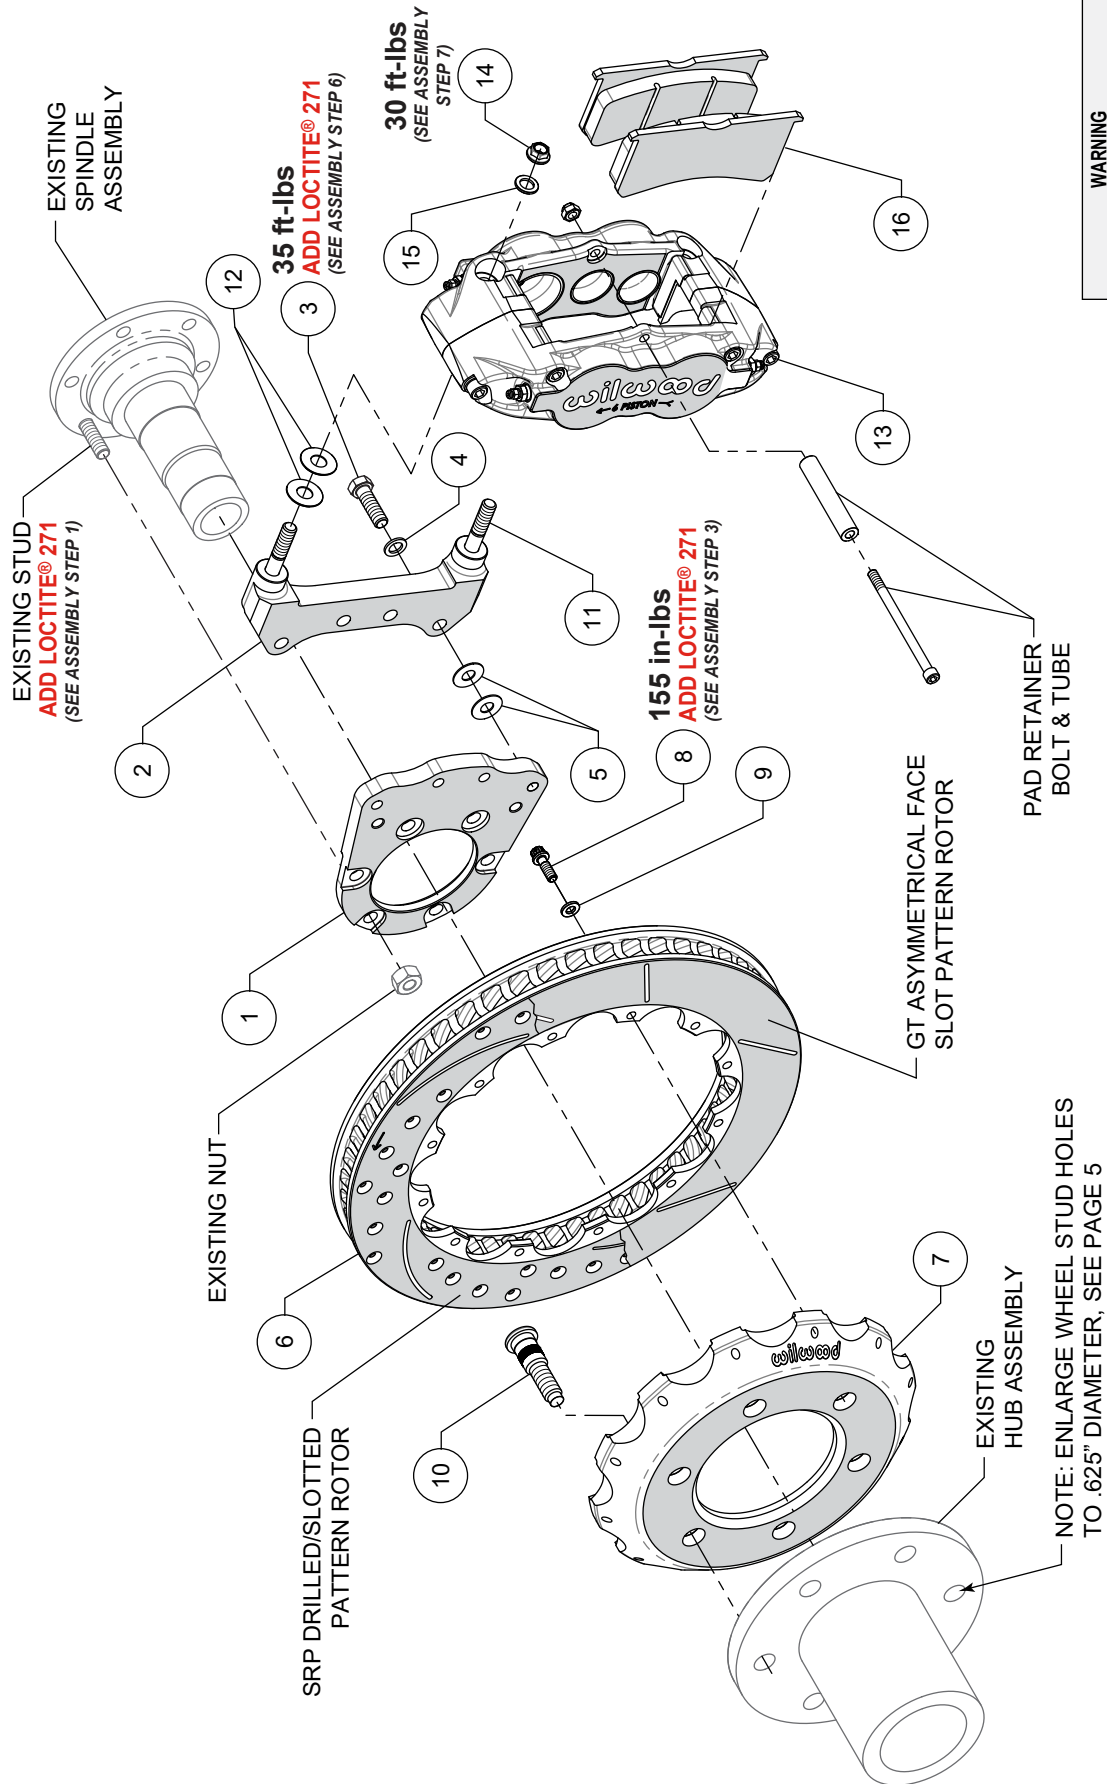
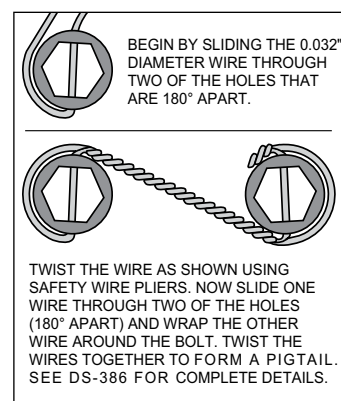

Figure 1. Typical Installation Configuration
Figure 2.
NOTE: Numbers in parenthesis refer to the parts list and Figure 1 on the preceding pages.
STEP 1 Orient and mount the flat bracket (1) to the spindle using the OEM studs and nuts as shown in Figure 1 and Photo 1. Apply red *Loctite*® 271 to the threads of studs and torque nuts to OEM specifications. **NOTE:** The bracket must fit squarely against the mounting surface. Inspect for interference from casting irregularities, machining ridges, burrs, etc.
STEP 2 The caliper mount bracket (2) should initially be installed with clean, dry threads on the mounting bolts. Orient the bracket as shown in Figure 1 and Photo 2, and install using bolts (3) and washers (4). Initially place two .035 thick shims (5) on each bolt between the flat bracket (1) and caliper mount bracket (2), Figure 1. Temporarily tighten the mounting bolts. Later, after the caliper alignment has been checked, the mount bolts will be secured using red *Loctite*® 271.
STEP 3 Orient the rotor (6) and the hat (7) as shown in Figure 1 and Photo 3. Attach the hat to the rotor using bolts (8) and washers (9). Apply red *Loctite*® 271 to the bolt threads and torque to value shown in Figure 1 using a criss-cross pattern. For an added measure of security, the bolts may be safety wired using standard 0.032 inch diameter stainless steel safety wire as shown in Figure 2. Please refer to Wilwood's data sheet DS-386 (available at www.wilwood.com/Pdf/DataSheets/ds386.pdf) for complete safety wire installation instructions.
STEP 4 **NOTE:** See "Modification Instructions" for information on modifying the wheel stud holes. Orient the hat/rotor (6/7) and existing hub so the wheel stud holes are aligned with each other as shown in Figure 1. Install the wheel studs (10) from the backside of the hat and press studs into the hub, as shown in Figure 1.
STEP 6 NOTE: This kit contains distinct right and left hand calipers that must be mounted in a specific direction, as described below. Initially place two .035" thick shims (12) on each stud (11) as shown in Figure 1 and Photo 5. Mount the caliper (13) onto the bracket (2) using lock nuts (14) and washers (15), Figure 1. Ensure that the caliper is mounted so that the largest pistons are at the rotor exit end of the caliper, in relation to the direction of forward rotor rotation. Temporarily tighten the lock nuts and view the rotor through the top opening of the caliper. The rotor should be centered in the caliper, Photo 6. If not, adjust by adding or subtracting shims (5) between the flat bracket (1) and caliper mounting bracket (2). Always use the same amount of shims on each of the four mounting bolts (3). Once the caliper alignment is correct, remove the bracket mounting bolts (3) one at a time, apply red *Loctite*® 271 to the threads, and torque to value shown in Figure 1.
STEP 7 Remove the caliper pad retainer bolt, locknut, and tube from the caliper. Insert the brake pads (16) into the caliper, with the friction material facing the rotor, as shown in Photo 7. Check that the top of the brake pad is flush with the outside diameter of the rotor, Photo 8. If not, adjust by adding or subtracting shims (12) between the caliper and the bracket. After the caliper pad height is set, torque the caliper lock nuts (14) to value shown in Figure 1. Secure the brake pads in place with the pad retainer tube, bolt, and locknut. The locknut should be snug without play in the bolt or tube. Be cautious not to over tighten.